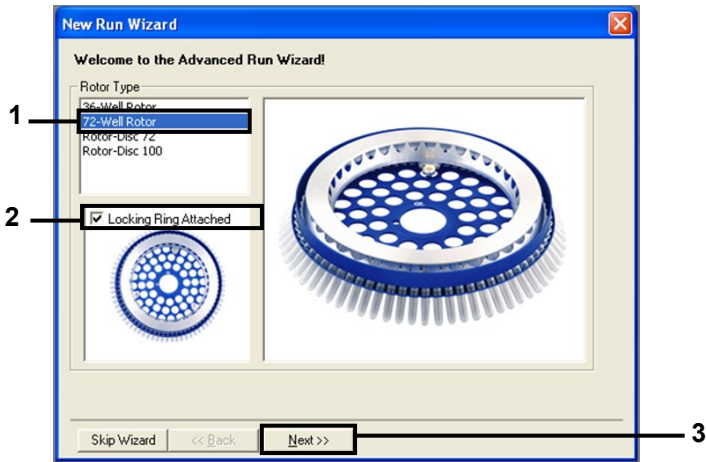

Figure 14. The “New Run Wizard” dialog box. (1 = “Rotor type”; 2 = “Locking Ring Attached” box; 3 = “Next”)
13. Ensure that the correct rotor is selected, and check the box to confirm that the locking ring is attached. Click **Next** (Figure 14).